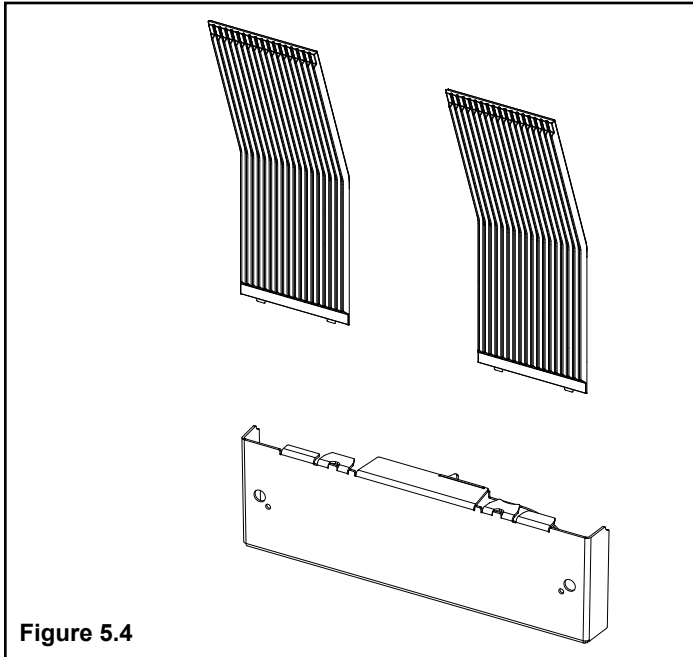
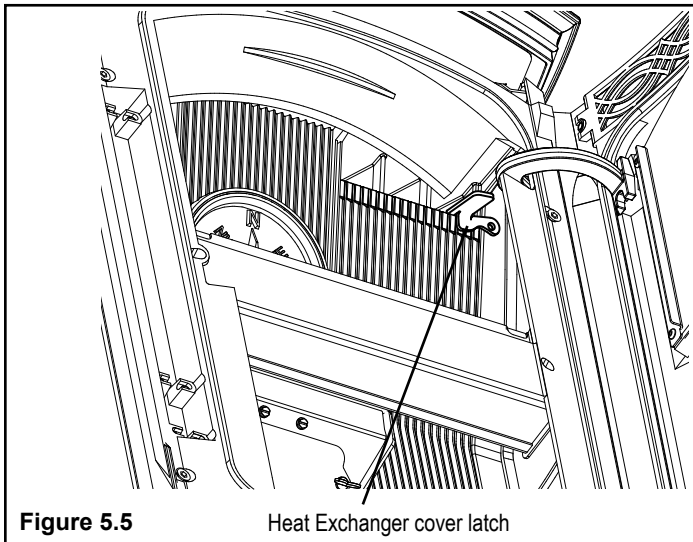
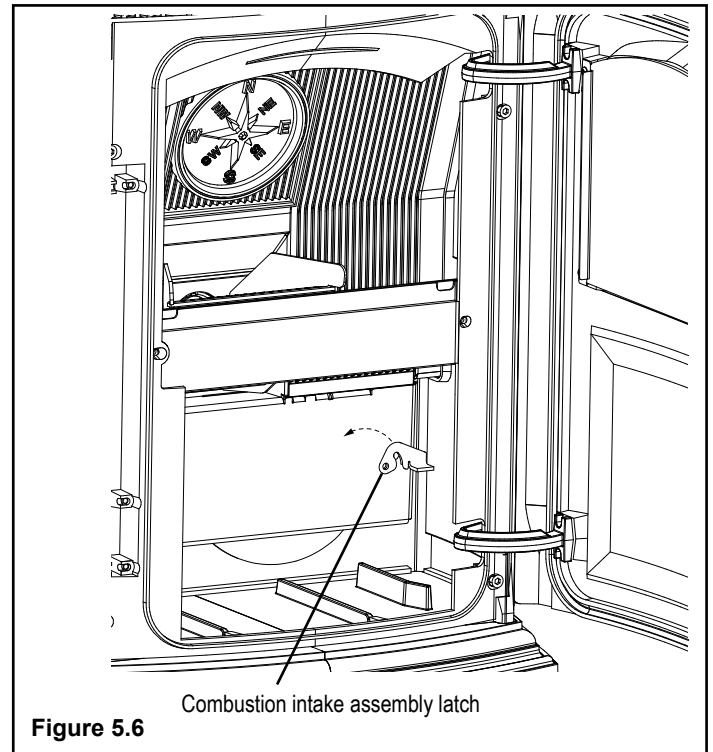

Figure 5.4
Figure 5.5 Heat Exchanger cover latch
Figure 5.6 Combustion intake assembly latch
- Remove the two heat exchanger covers. Figure 5.4 These covers are made of cast iron and are held into place with a swing latch in the upper right and left corners. Figure 5.5. Swing the latch upward far enough to release the top edge of the heat exchanger cover. Tilt the cover forward approximately 2" and lift it upward about 1" to release the bottom edge. The cover can now be taken completely out through the upper door opening. Repeat the process with the second heat exchanger cover.
- Remove the combustion intake assembly. Figure 5.4. The combustion intake assembly is held into place with two swing latches Figure 5.6. Swing each latch until it hangs down away from the retainer stud. Now the assembly can be taken out by tilting the right side outward first through the lower door opening.